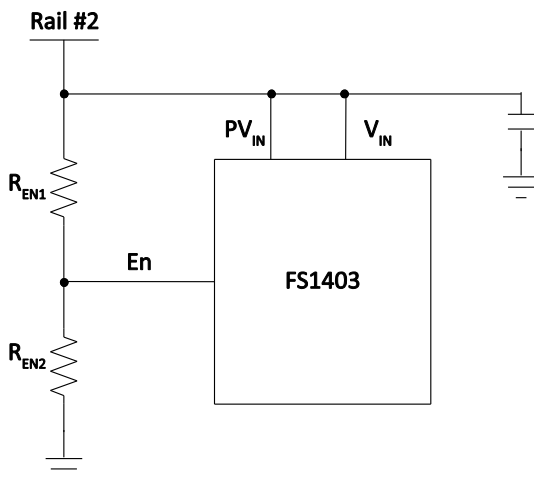

Figure 8 En pin used to monitor other rails for sequencing purposes
- It can be used to monitor other rails for a specific power sequencing scheme (Figure 8).